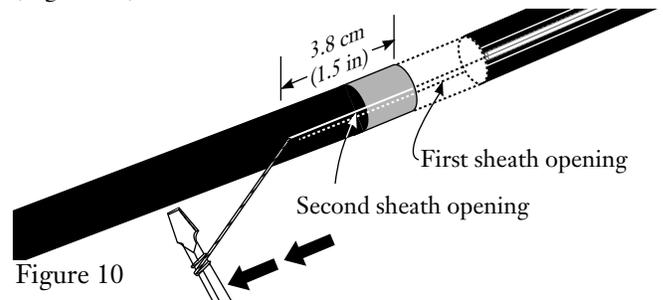

Figure 10
4.11 Using the shaft of a screwdriver as a handle, pull one ripcord at a time through the notches made in the armor. Continue to pull the ripcords through the armor until they are approximately 3.8 cm (1.5 in.) past the tape wrap (Figure 10).